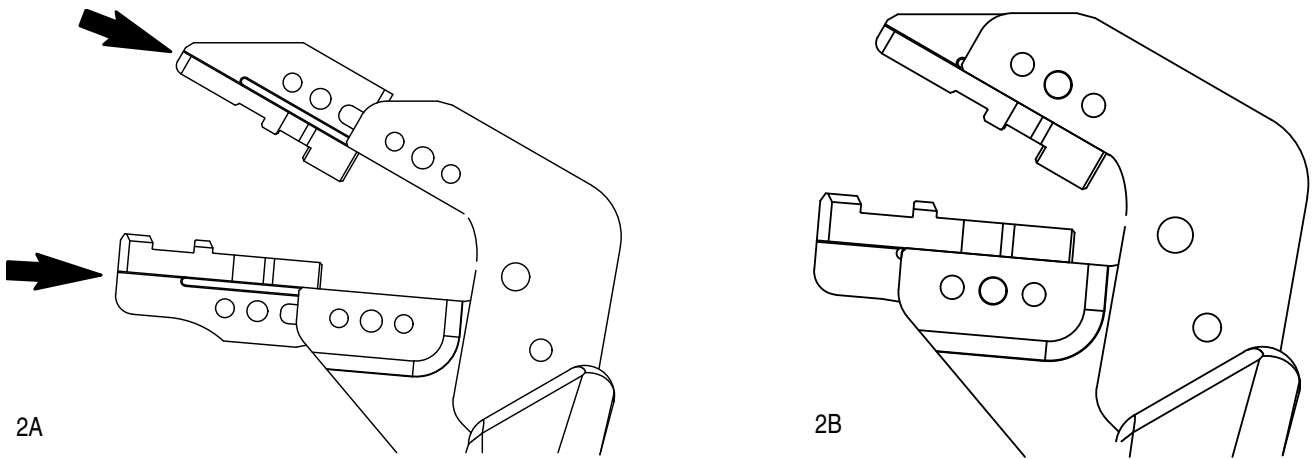

Figure 2
3. DIE INSTALLATION AND REMOVAL (Figure 2)